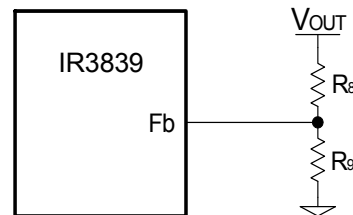

Fig. 16. Typical application of the IR3839 for programming the output voltage
When an external resistor divider is connected to the output as shown in figure 16. Equation (8) can be rewritten as: